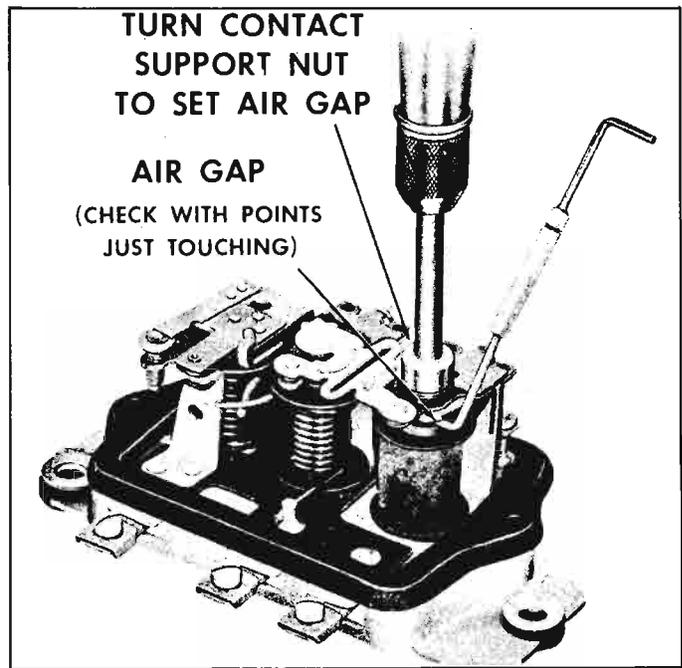

Fig. 8-34—Adjusting Regulator Air Gap
1. Push armature down to core and release it until contact points just touch and then measure air gap between armature and center of core (fig. 8-34). Air gap should be .075".
2. Adjust gap by raising or lowering contact support brackets as required by turning nylon nut on top of voltage regulator unit. (fig. 8-34).
1. Check and adjust current regulator air gap in exactly the same manner as voltage regulator (fig. 8-34). Air gap should be .075".